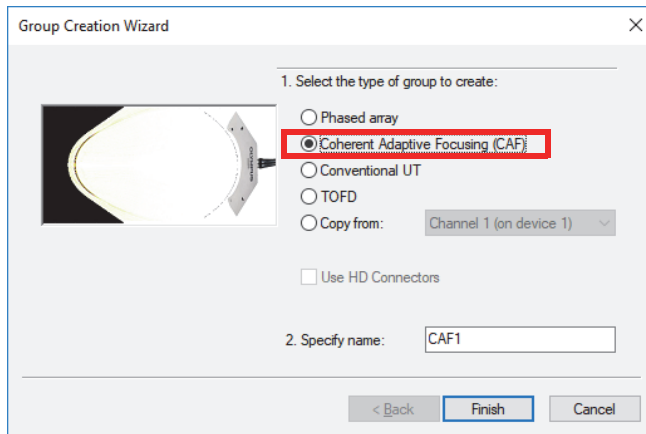

Figure 4-12 Group Creation Wizard dialog box
2. In the **Group Creation Wizard** dialog box, select **Coherent Adaptive Focusing (CAF)** (Figure 4-12 on page 109) instead of **Phased array**.